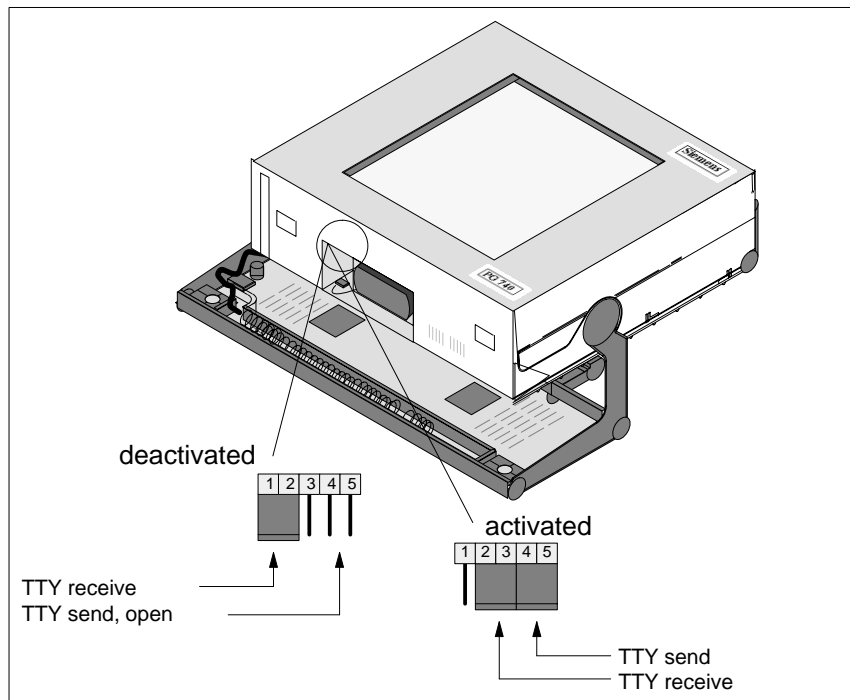

Figure 4-12 Activating/Deactivating the TTY Port Using Jumpers
Change the jumper settings as shown in Figure 4-12.
5. Insert the jumper in slot 1-2 (see Figure 4-12).